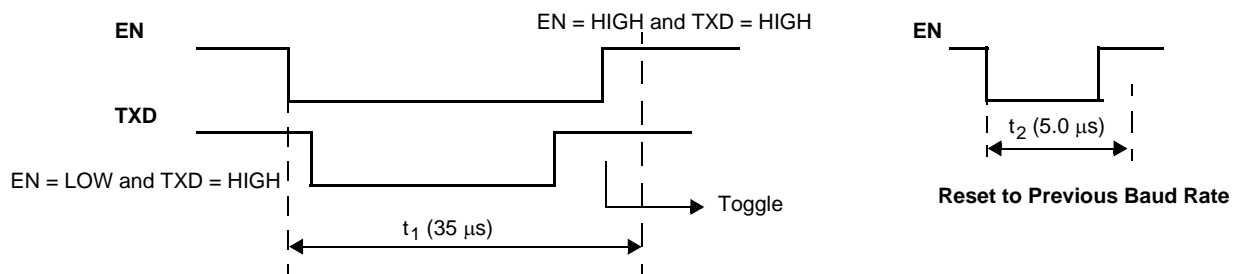

Figure 13. Fast Baud Rate Selection (Toggle Function)
- 15 See Figure 13, 11.
Fast mode can be selected from either Normal or Slow mode. Fast mode is entered via a special sequence (called toggle function) as follows: TXD and EN pins set LOW, then TXD pulled HIGH, and at the EN pin LOW-to-HIGH transition, the device enters into the Fast Baud Rate. The duration of this sequence must be less than 35 μ s. The toggle function is described in Figure 13, 11. Once in the Fast mode, two different procedures will bring the device back to the previously selected mode (Normal or Slow):
- A glitch on EN where $t_2 < 5.0 \mu$ s also resets the device to the previously selected mode (Normal or Slow) (Figure 13).